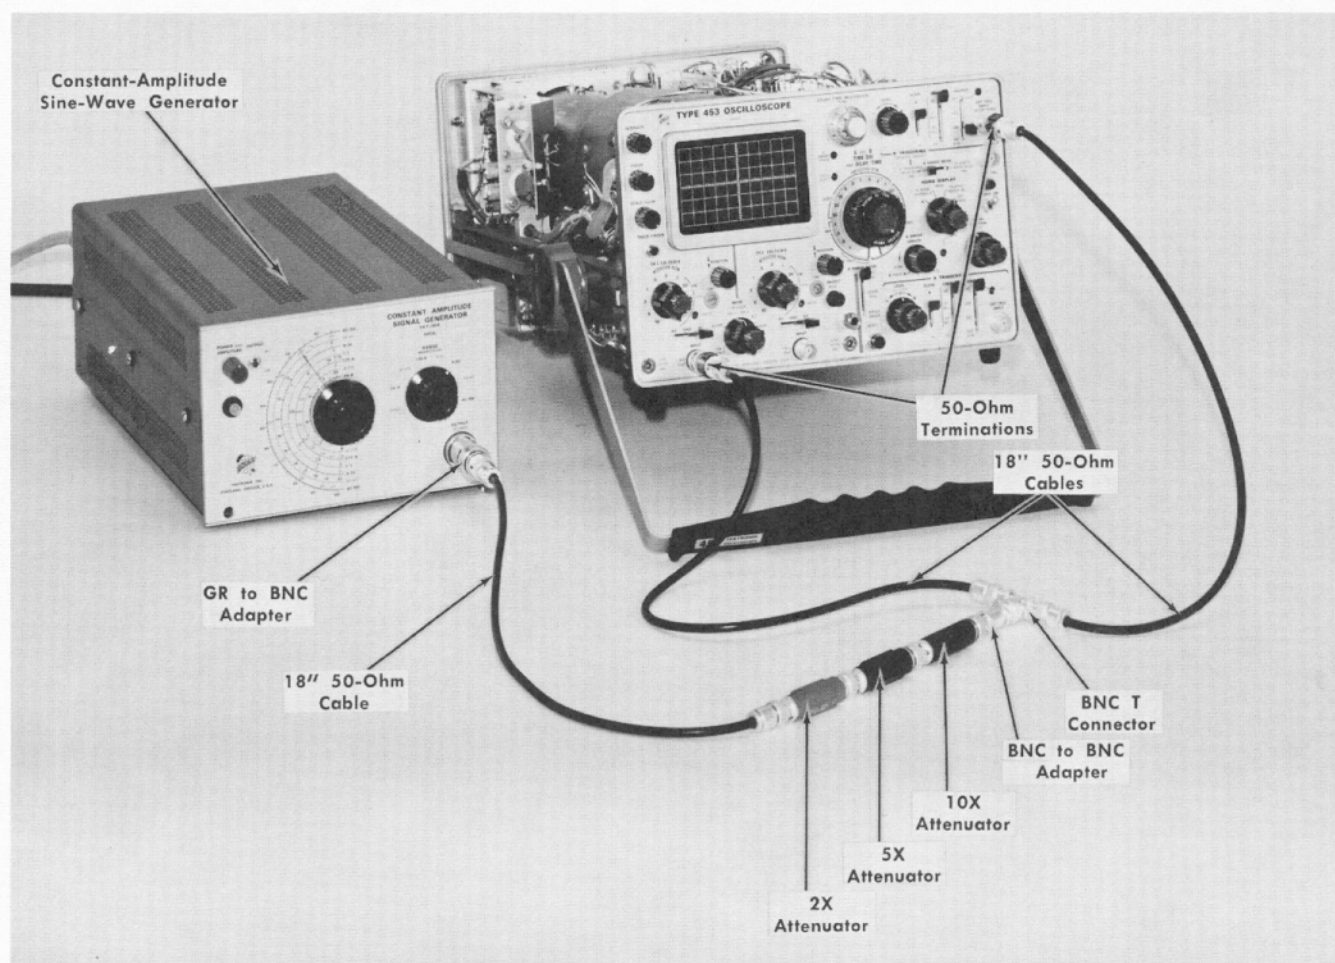

Fig. 6-36. Initial test equipment setup for steps 31 through 33.
a. Test equipment setup is shown in Fig. 6-36.